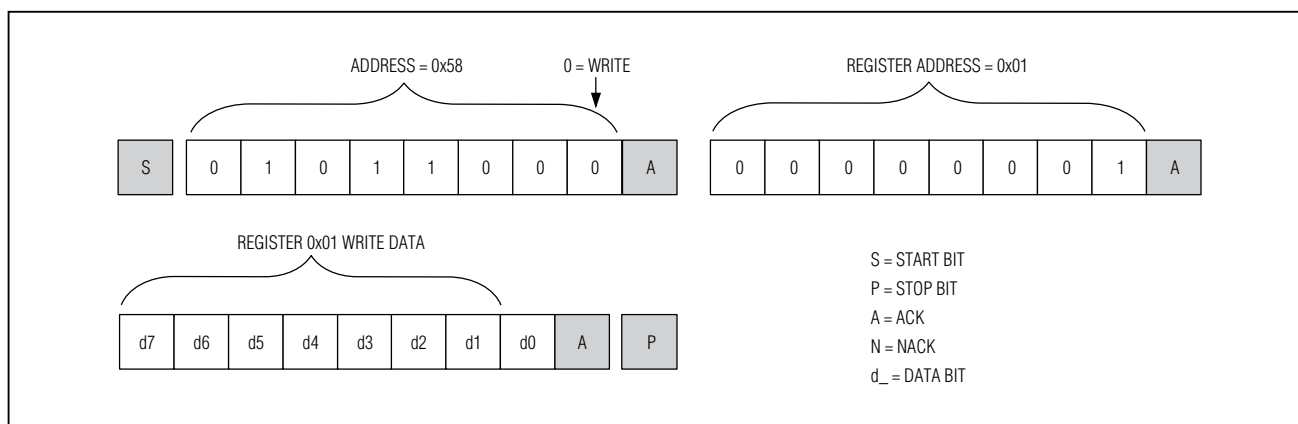
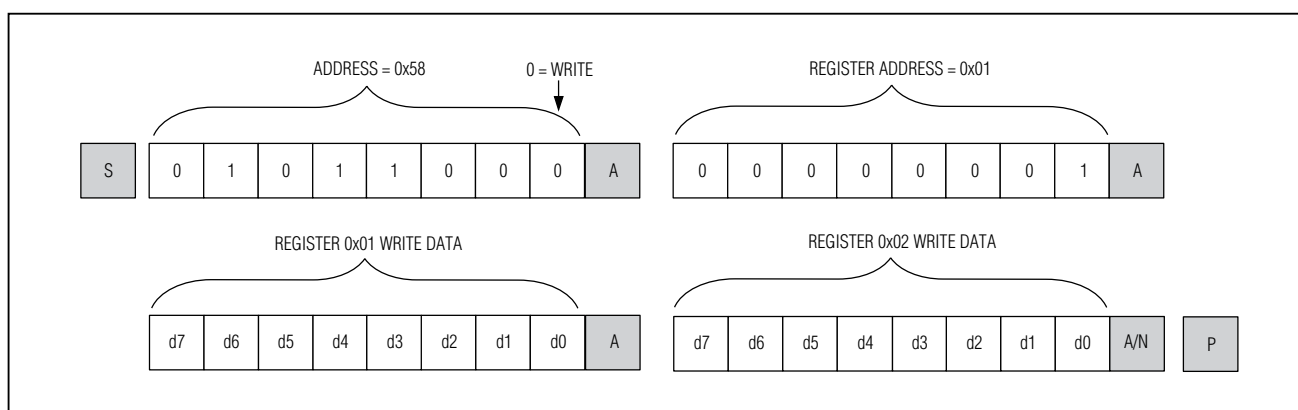

Figure 9. Format for I²C Write
Figure 10. Format for Writing to Multiple Registers
A write to the MAX14578E comprises the transmission of the slave address with the R/W bit set to zero, followed by at least one byte of information. The first byte of information is the register address or command byte. The register address determines which register of the MAX14578E is to be written by the next byte, if received. If a STOP (P) condition is detected after the register address is received, the MAX14578E takes no further action beyond storing the register address (Figure 9). Any bytes received after the register address are data bytes. The first data byte goes into the register selected by the register address, and subsequent data bytes go into subsequent registers (Figure 10). If multiple data bytes are transmitted before a STOP condition, these